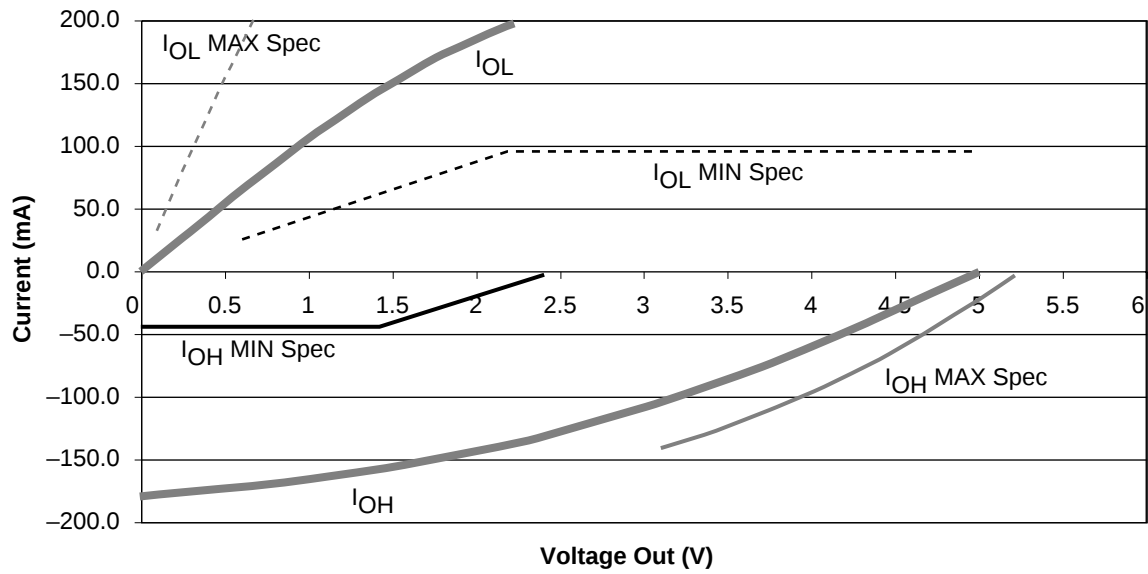

Figure 14 • 5.0V PCI Curve for RT54SX-S Family
1. Refer to the V/I curves in Figure 14 on page 19. Switching current characteristics for REQ# and GNT# are permitted to be one half of that specified here; i.e., half size output drivers may be used on these signals. This specification does not apply to CLK and RST# which are system outputs. "Switching Current High" specification are not relevant to SERR#, INTA#, INTB#, INTC#, and INTD# which are open drain outputs.
3. Maximum current requirements must be met as drivers pull beyond the last step voltage. Equations defining these maximums (A and B) are provided with the respective diagrams in Figure 14 on page 19. The equation defined maxima should be met by design. In order to facilitate component testing, a maximum current test point is defined for each side of the output driver.
Figure 14 shows the 5.0V PCI V/I curve and the minimum and maximum PCI drive characteristics of the RT54SX-S family.